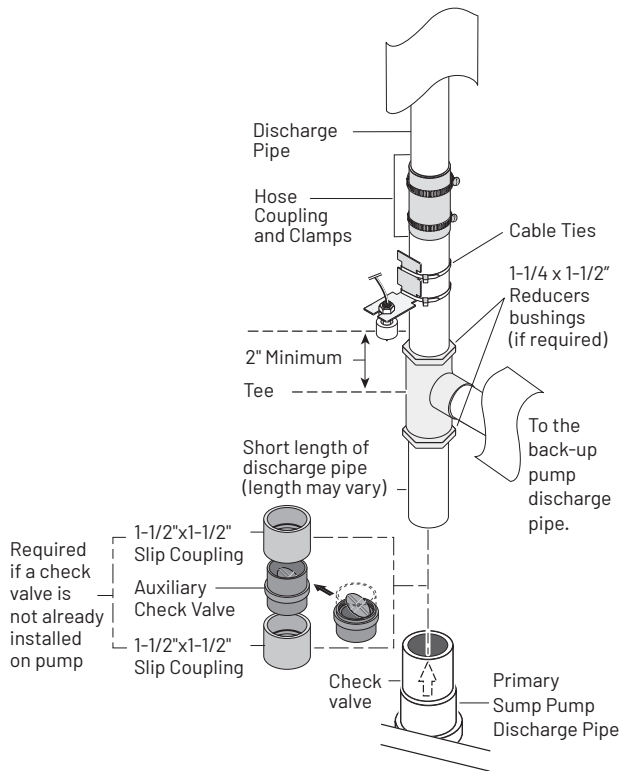

FIGURE 4: BACK-UP PUMP FLOAT SWITCH
9. Install a short length of pipe into the top of the check valve in the primary pump discharge. See Figure 4.
13. Mount the float switch assembly loosely to the discharge pipe with the cable ties. See Figure 4. Do not tighten the cable ties. Adjustments may be needed later.